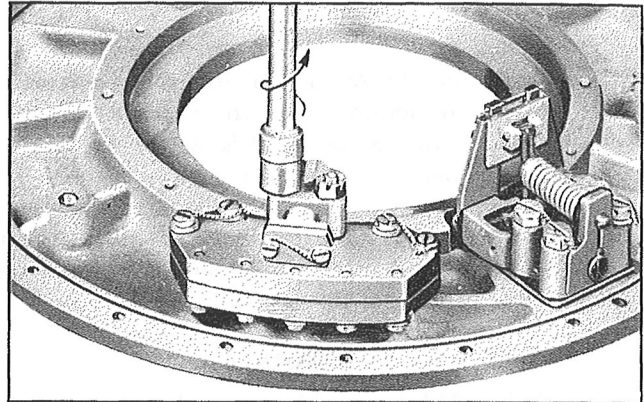

Figure 139—Removal of Pressure Control Valve Assembly
Step 19.—Cut the safety wire and remove the attaching nuts from the pressure control valve, using a  $\frac{7}{16}$ " socket wrench. See Figure 139.